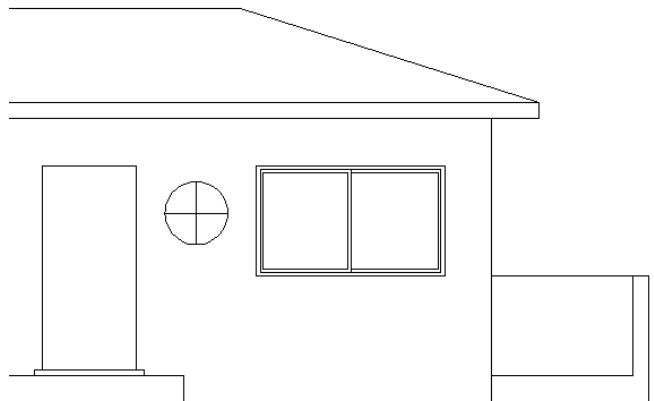

FIGURE C.12: The completed living room window
9. Stretch the window to the right to fit it in the opening. Press Esc to clear the grips (see Figure C.12). Our living room window is complete.